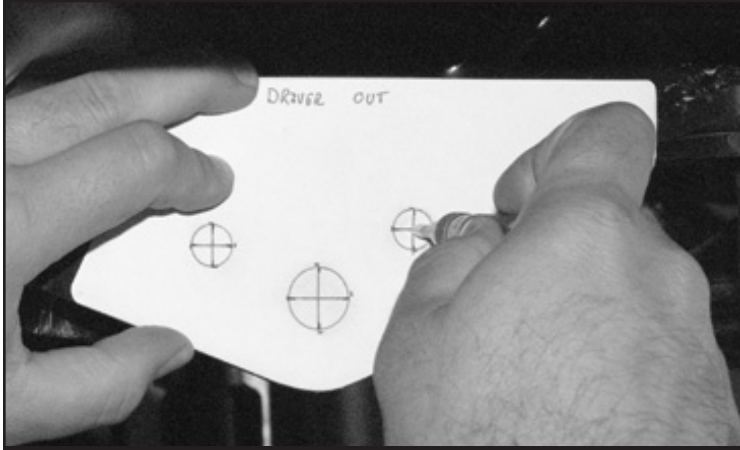

FIGURE 32 - STEP 37
37. Line up the drill template with the factory Radius arm bracket and mark the two holes around the radius arm pivot bolt. **SEE FIGURE 32**